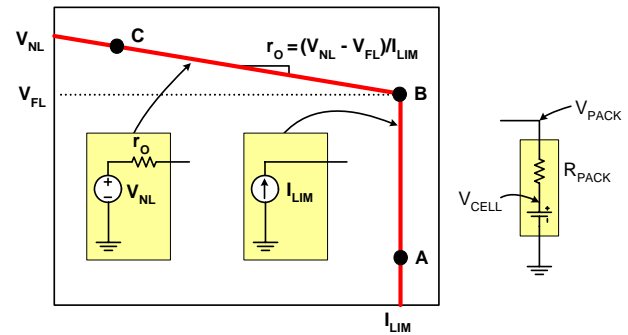
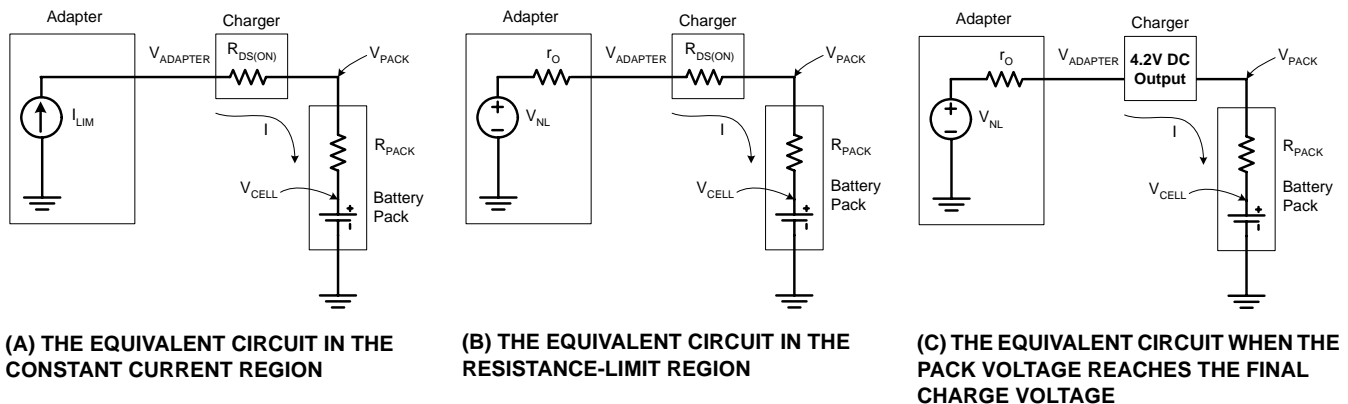
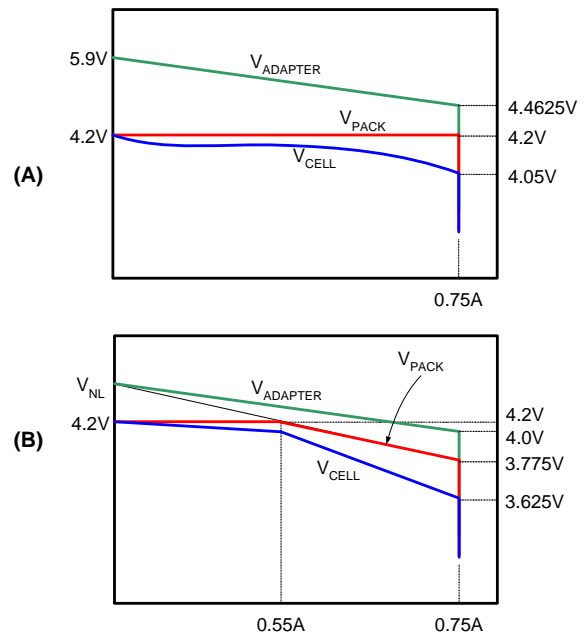
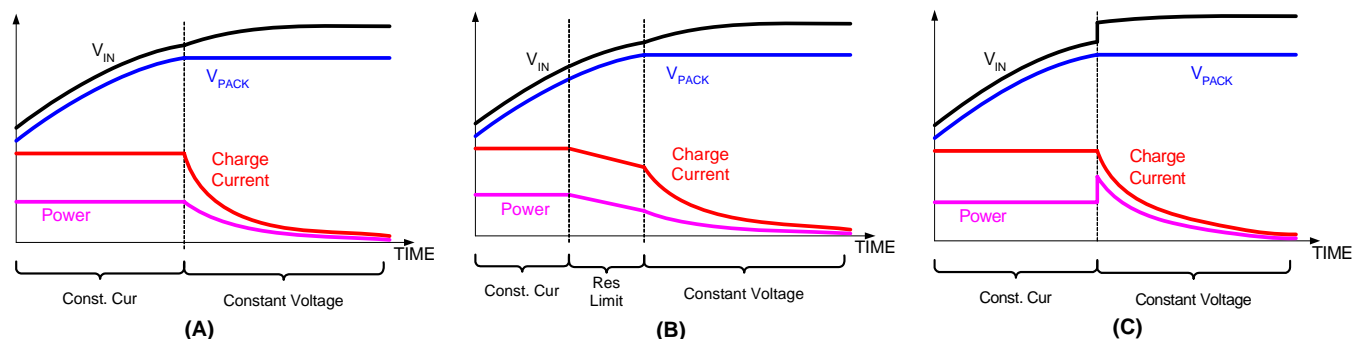

FIGURE 24. THE IDEAL I-V CHARACTERISTICS OF A CURRENT LIMITED ADAPTER
FIGURE 25. THE EQUIVALENT CIRCUIT OF THE CHARGING SYSTEM WORKING WITH CURRENT LIMITED ADAPTERS
FIGURE 26. THE I-V CHARACTERISTICS OF THE CHARGER WITH DIFFERENT CURRENT LIMITED ADAPTERS
FIGURE 27. THE OPERATING CURVES WITH THREE DIFFERENT CURRENT LIMITED ADAPTERS
Figure 24 shows the ideal current-voltage characteristics of a current-limited adapter. V_{NL} is the no-load adapter output voltage and V_{FL} is the full load voltage at the current limit I_{LIM} . Before its output current reaches the limit I_{LIM} , the adapter presents the characteristics of a voltage source. The slope r_O represents the output resistance of the voltage supply. For a well regulated supply, the output resistance can be very small, but some adapters naturally have a certain amount of output resistance.
current-voltage characteristics curve, such as point A, to higher voltage until reaching the breaking point B, as shown in Figure 24.
The adapter is equivalent to a voltage source with output resistance when running in the constant-voltage region; because of this characteristic. As the charge current drops, the adapter output moves from point B to point C, shown in Figure 24.
The battery pack can be approximated as an ideal cell with a lumped-sum resistance in series, also shown in Figure 24. The ISL6292 charger sits between the adapter and the battery.
As described earlier, the ISL6292 minimizes the thermal dissipation when running off a current-limited AC adapter, as shown in Figure 18. The thermal dissipation can be further reduced when the adapter is properly designed. The following demonstrates that the thermal dissipation can be minimized if the adapter output reaches the full-load output voltage (point B in Figure 24) before the battery pack voltage reaches the final charge voltage (4.1V or 4.2V). The assumptions for the following discussion are: the adapter current limit = 750mA, the battery pack equivalent resistance = 200mΩ, and the charger ON resistance is 350mΩ.
When charging in the constant-current region, the pass element in the charger is fully turned on. The charger is equivalent to the on-resistance of the internal P-channel MOSFET. The entire charging system is equivalent to the circuit shown in Figure 25(A). The charge current is the constant current limit I_{LIM} , and the adapter output voltage can be easily found out as,
A critical condition of the adapter design is that the adapter output reaches point B in Figure 24 at the same time as the battery pack voltage reaches the final charge voltage (4.1V or 4.2V), that is:
When the above condition is true, the charger enters the constant-voltage mode simultaneously as the adapter exits the current-limit mode. The equivalent charging system is shown in Figure 25(C). Since the charge current drops at a higher rate in the constant-voltage mode than the increase rate of the adapter voltage, the power dissipation decreases as the charge current decreases. Therefore, the worst case thermal dissipation occurs in the constant-current charge mode. Figure 26 (A) shows the I-V curves of the adapter output, the battery pack voltage and the cell voltage during the charge. The 5.9V no-load voltage is just an example value higher than the full-load voltage. The cell voltage 4.05V uses the assumption that the pack resistance is 200mΩ. Figure 27 (A) illustrates the adapter voltage, battery pack voltage, the charge current and the power dissipation in the charger respectively in the time domain.
If the battery pack voltage reaches 4.2V (or 4.1V) before the adapter reaches point B in Figure 24, a voltage step is expected at the adapter output when the pack voltage reaches the final charge voltage. As a result, the charger power dissipation is also expected to have a step rise. This case is shown in Figure 18 as well as Figure 27 (C). Under this condition, the worst case thermal dissipation in the charger happens when the charger enters the constant voltage mode.
is shown in Figure 25(B). Eventually, the battery pack voltage will reach 4.2V (or 4.1V) because the adapter no-load voltage is higher than 4.2V (or 4.1V), then Figure 25(C) becomes the equivalent circuit until charging ends. In this case, the worst-case thermal dissipation also occurs in the constant-current charge mode. Figure 26(B) shows the I-V curves of the adapter output, the battery pack voltage and the cell voltage for the case $V_{FL} = 4V$. In the case, the full-load voltage is lower than the final charge voltage (4.2V), but the charger is still able to fully charge the battery as long as the no-load voltage is above 4.2V. Figure 27(B) illustrates the adapter voltage, battery pack voltage, the charge current and the power dissipation in the charger respectively in the time domain.
Figure 29 shows the actual captured waveforms depicted in Figure 27 (C). The constant charge current is 750mA. A step in the adapter voltage during the transition from CC mode to CV mode is demonstrated.